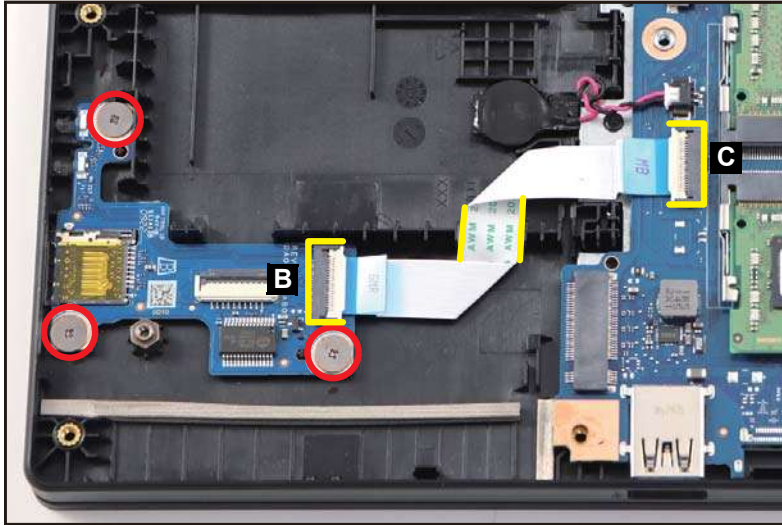

Figure 3-44. Card Reader Board Removal
2. Disconnect one end of the card reader board FFC from the card reader board connector (B). Then disconnect the other end of the FFC from the mainboard connector (C) (Figure 3-44).
3. Remove three (3) screws securing the card reader board (Figure 3-44).
Card reader board FFC (Flexible Flat Circuit) can be damaged if removed while the card reader board and mainboard connectors are locked. When removing the card reader board FFC, carefully lift the portion of FFC (highlighted by the yellow lines) to detach it from the adhesive tape underneath as shown in Figure 3-44.